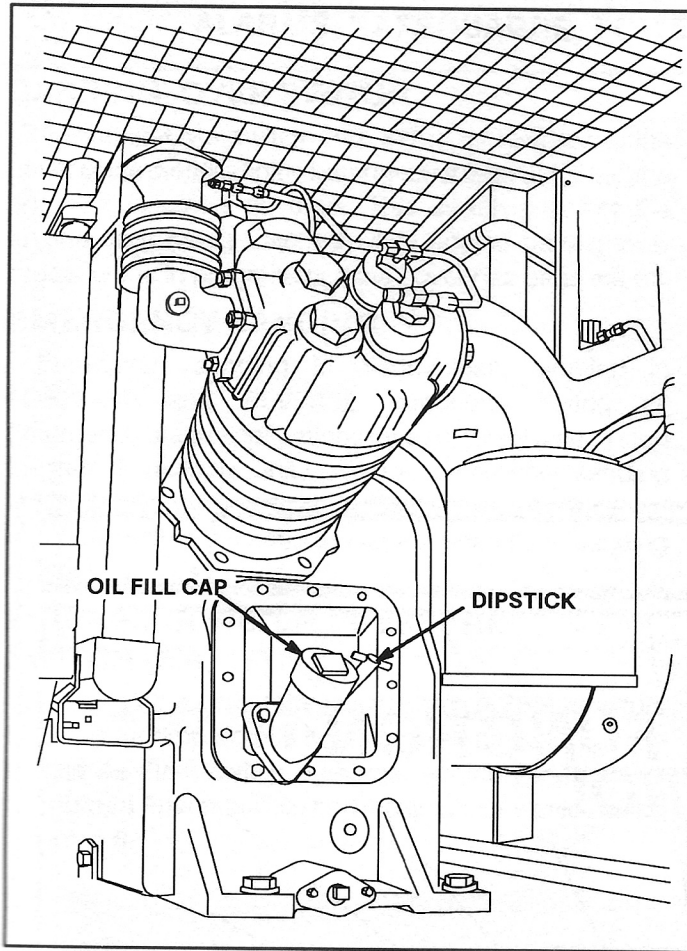

FIG. 35. AIR COMPRESSOR LUBE-OIL DIPSTICK.
4. Compressor Lube Oil (Fig. 35) – A dipstick, located near the fill cap, can be used to determine the oil level in the compressor crankcase.